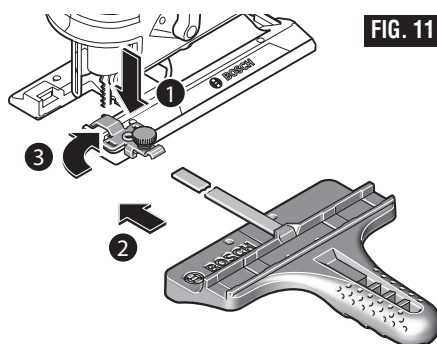

FIG. 11
3. Place lock knob(s) on proper side of clamp(s) and securely tighten lock knob(s) on the clamp(s) (Fig. 11).
3. Securely tighten lock knob(s) on the clamp(s) (Fig. 11).
8. Place lock knob(s) on proper side of clamp(s) and securely tighten lock knob(s) on the clamp(s) (Fig. 11).